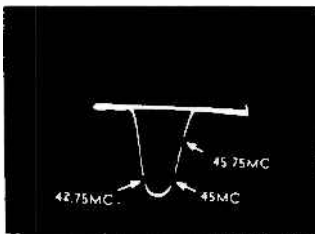

Fig. 18 Overall IF Response.
8. With the test equipment set up as in Step 7, alternately adjust the 2nd IF, 3rd IF, 1st IF and the converter plate coil until an overall response curve similar to Fig. 18 is obtained. Do not adjust the 4th IF in this step. It will be found that the 2nd IF affects the low side (42.75 Mc) and the 3rd IF the high side of the response curve.